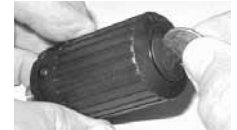

Fig. 101 - COVER REMOVAL
- Apply a coin to the recessed slot of the Cover and turn it counter clockwise out of the housing (Fig. 101).